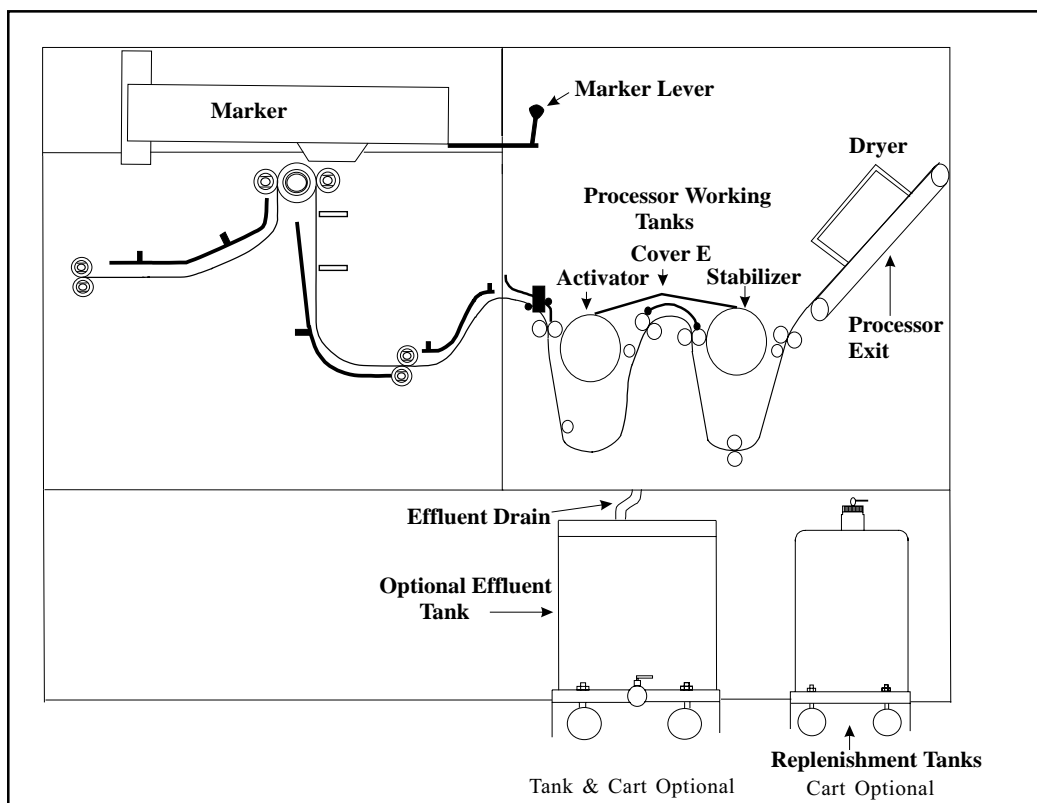

Figure 6-1 Side View of the PlateStream Platesetter
1. Open the top cover. Raise the marker by pulling marker lever towards the front of the Platesetter until lever stops. Lift up marker gently (see Figure 6-1).
3. Turn on the feed motor by pressing the **'1'** key and then the **'ON/+'** key. Access the feed rollers from the top of the Platesetter. As the feed rollers are rotating, clean them using a soft cloth and D-Ink. See Figure 6-1. Press the **'OFF/-'** key to turn off the feed motor, then press **'ESC'**.
To clean the processor (see figure 6-1):